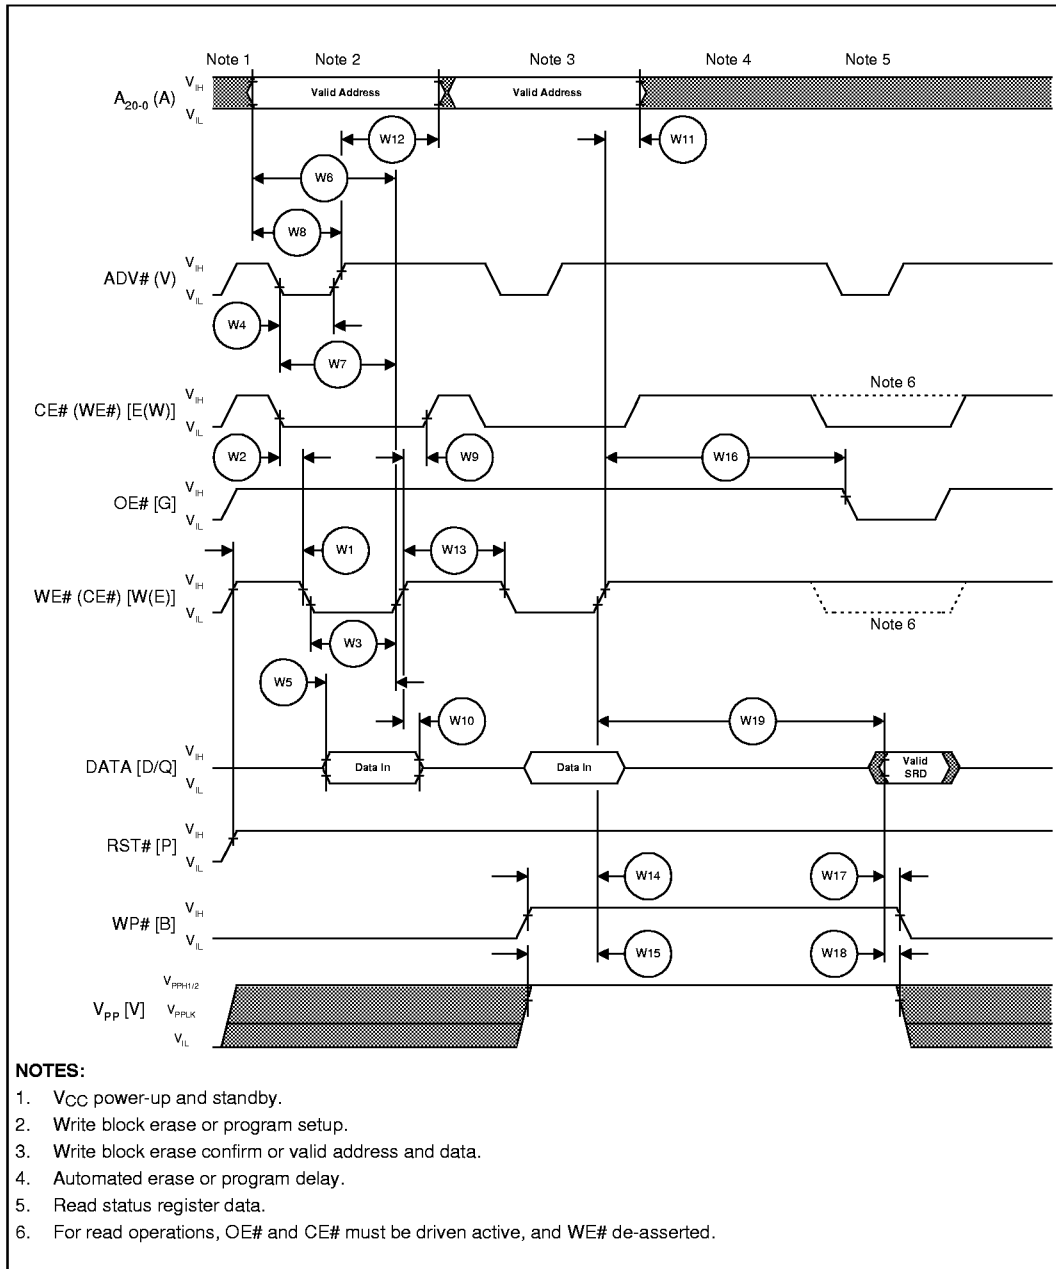

Figure 22. AC Waveform for Write Operations
5. Reference the *AC Waveform for Write Operations* Figure 22.